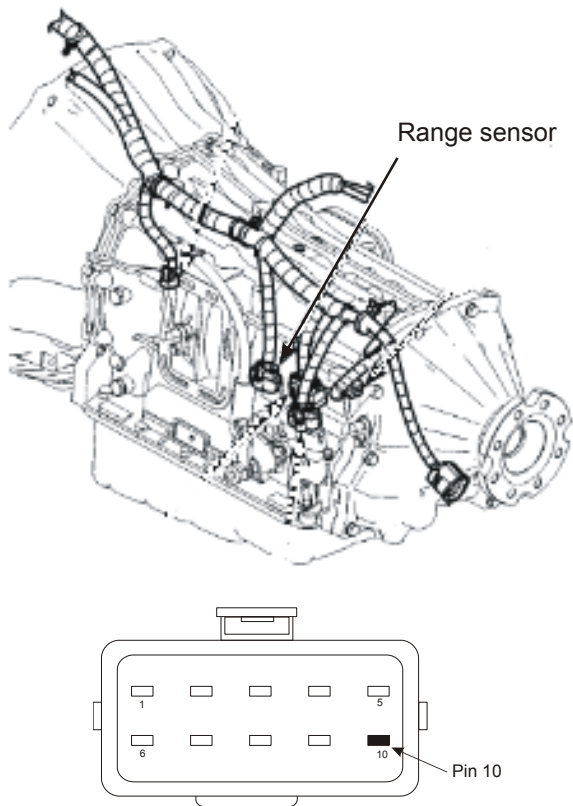

Figure 4
- Solder and seal the blue wire to the yellow wire with the dark blue stripe at pin 10 on the range sensor connector (Figure 4).